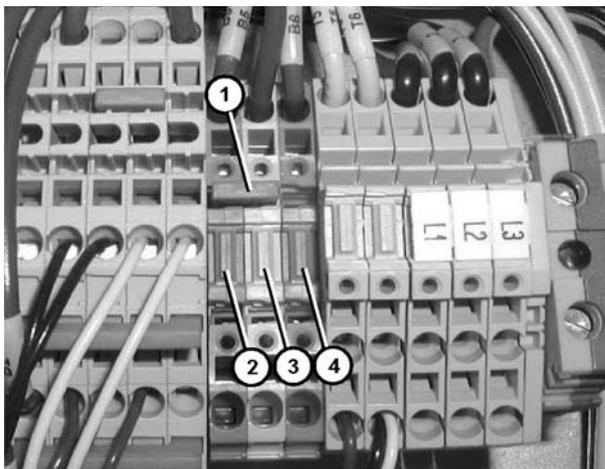

Figure 28
1. Remove the direction jumper (Figure 28, item 1) from the terminals. This jumper is not required.
3. Connect remote machine interface wires to the terminals (Figure 28, item 2, 3 and 4).
- Closing a contact between the blue terminal (Figure 28, item 2) and the white terminal (Figure 28, item 3) will cause the control to run the motor in the forward direction.
- Closing a contact between the white terminal (Figure 28, item 3) and the orange terminal (Figure 28, item 4) will cause the control to run the motor in the reverse direction.